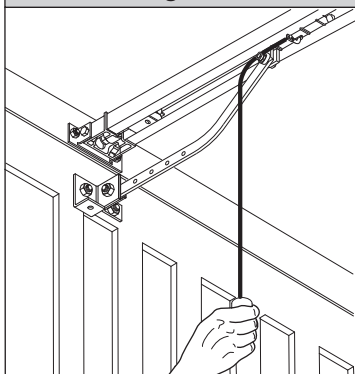

Fig. 22
In case of electric power failure or system malfunction, the manoeuvre must be carried out manually by pulling the wire connected to the carriage, as in fig.21. For garages which are not provided with a second exit, it is compulsory to fit an external key release device like Mod. **SM1** (fig.22) or Mod. **SET/S** (fig.23).
- SM1** External release device to be applied to the cremone bolt already fitted to the overhead door (fig.22).